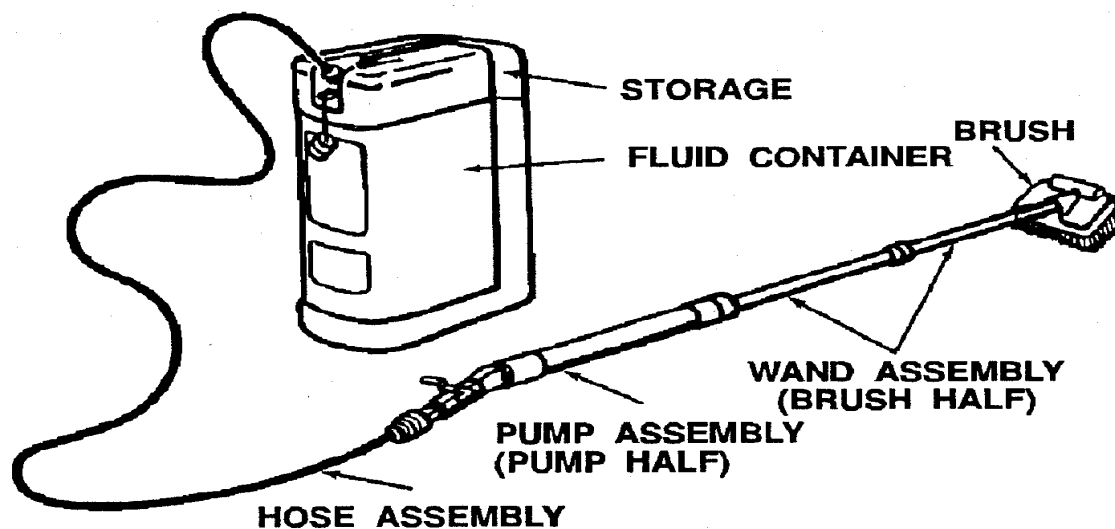

Figure 5-3. M-13 Portable Decontaminating Apparatus
c. Use the M13 apparatus to decontaminate vehicles and crew-served weapons larger than .50 caliber. The M13 (Figure 5-3) is about the size of a 5-gallon gasoline can. It comes prefilled with 14 liters of DS2 decon agent. Decon capability is 1,200 square feet. A hose assembly, pump assembly, wand assembly, and brush are attached to the fluid container for disseminating DS2. The brush allows removal of thickened agents, mud, grease, or other material from surfaces. See TM 3-4230-214-12&P for further information.